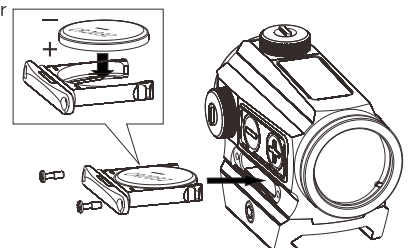

Fig 3-2
2) Battery installation(Fig3-2):